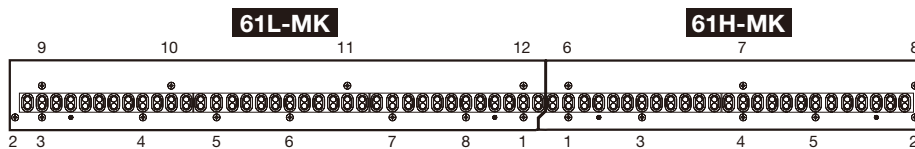

Fig.8
* *When installing the circuit board 61L-MK, tighten the screws from No. 1 to 12 in the numerical order as shown in the figure "61L-MK" in Fig.8. (Fig.8)*
* *When installing the circuit board 61H-MK, tighten the screws from No. 1 to 8 in the numerical order as shown in the figure "61H-MK" in Fig.8. (Fig.8)*